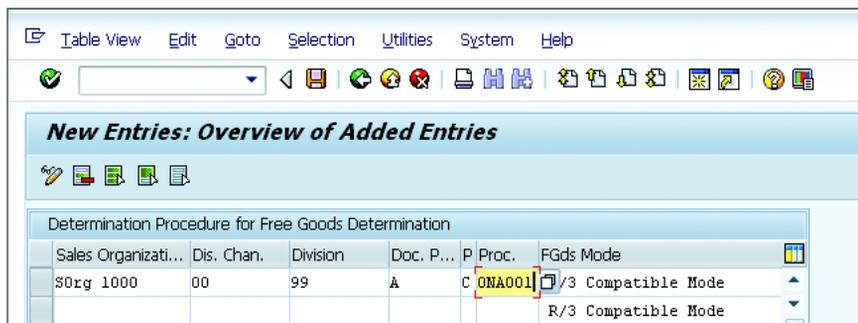

Figure 4.150 Free Goods Determination Assignment
- Assign the free goods determination procedure similar to the campaign determination procedure by navigating to CUSTOMER RELATIONSHIP MANAGEMENT • BASIC FUNCTIONS • FREE GOODS • SET UP FREE GOODS • ASSIGN FREE GOODS DETERMINATION PROCEDURE. You create the new entry and add the free goods determination procedure with the combination of sales area, customer pricing procedure, and document pricing procedure (see Figure 4.150).